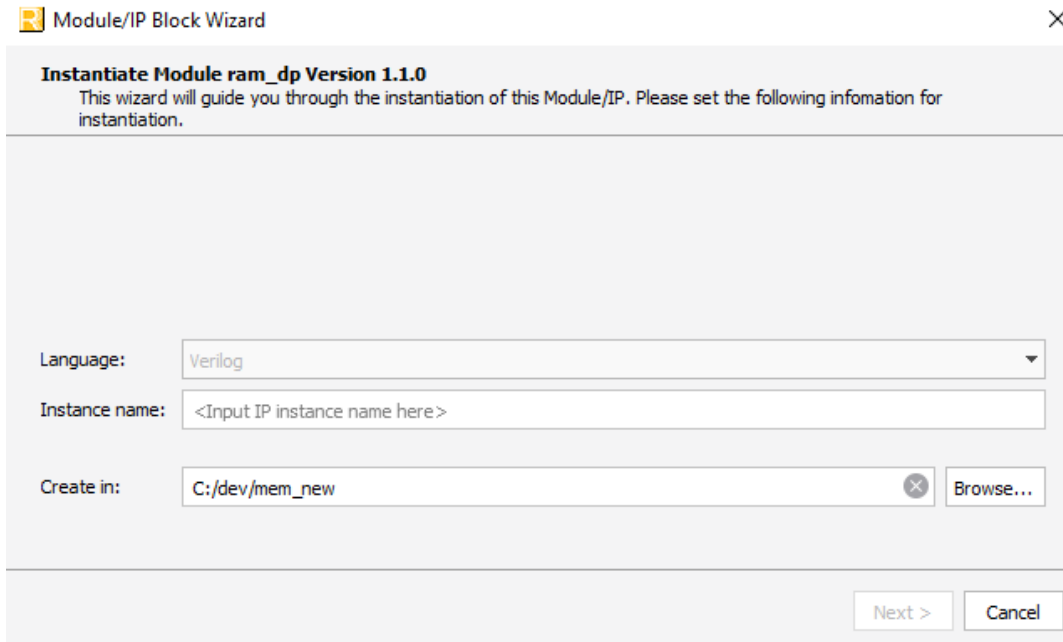

Figure 3.2. Example: Generating Pseudo Dual Port RAM (RAM_DP) Using Module/IP Block Wizard
2. This opens the Module/IP Block Wizard. In the **Name & Location** page, fill out the information of the module to generate as shown in Figure 3.2. Click **Next**.